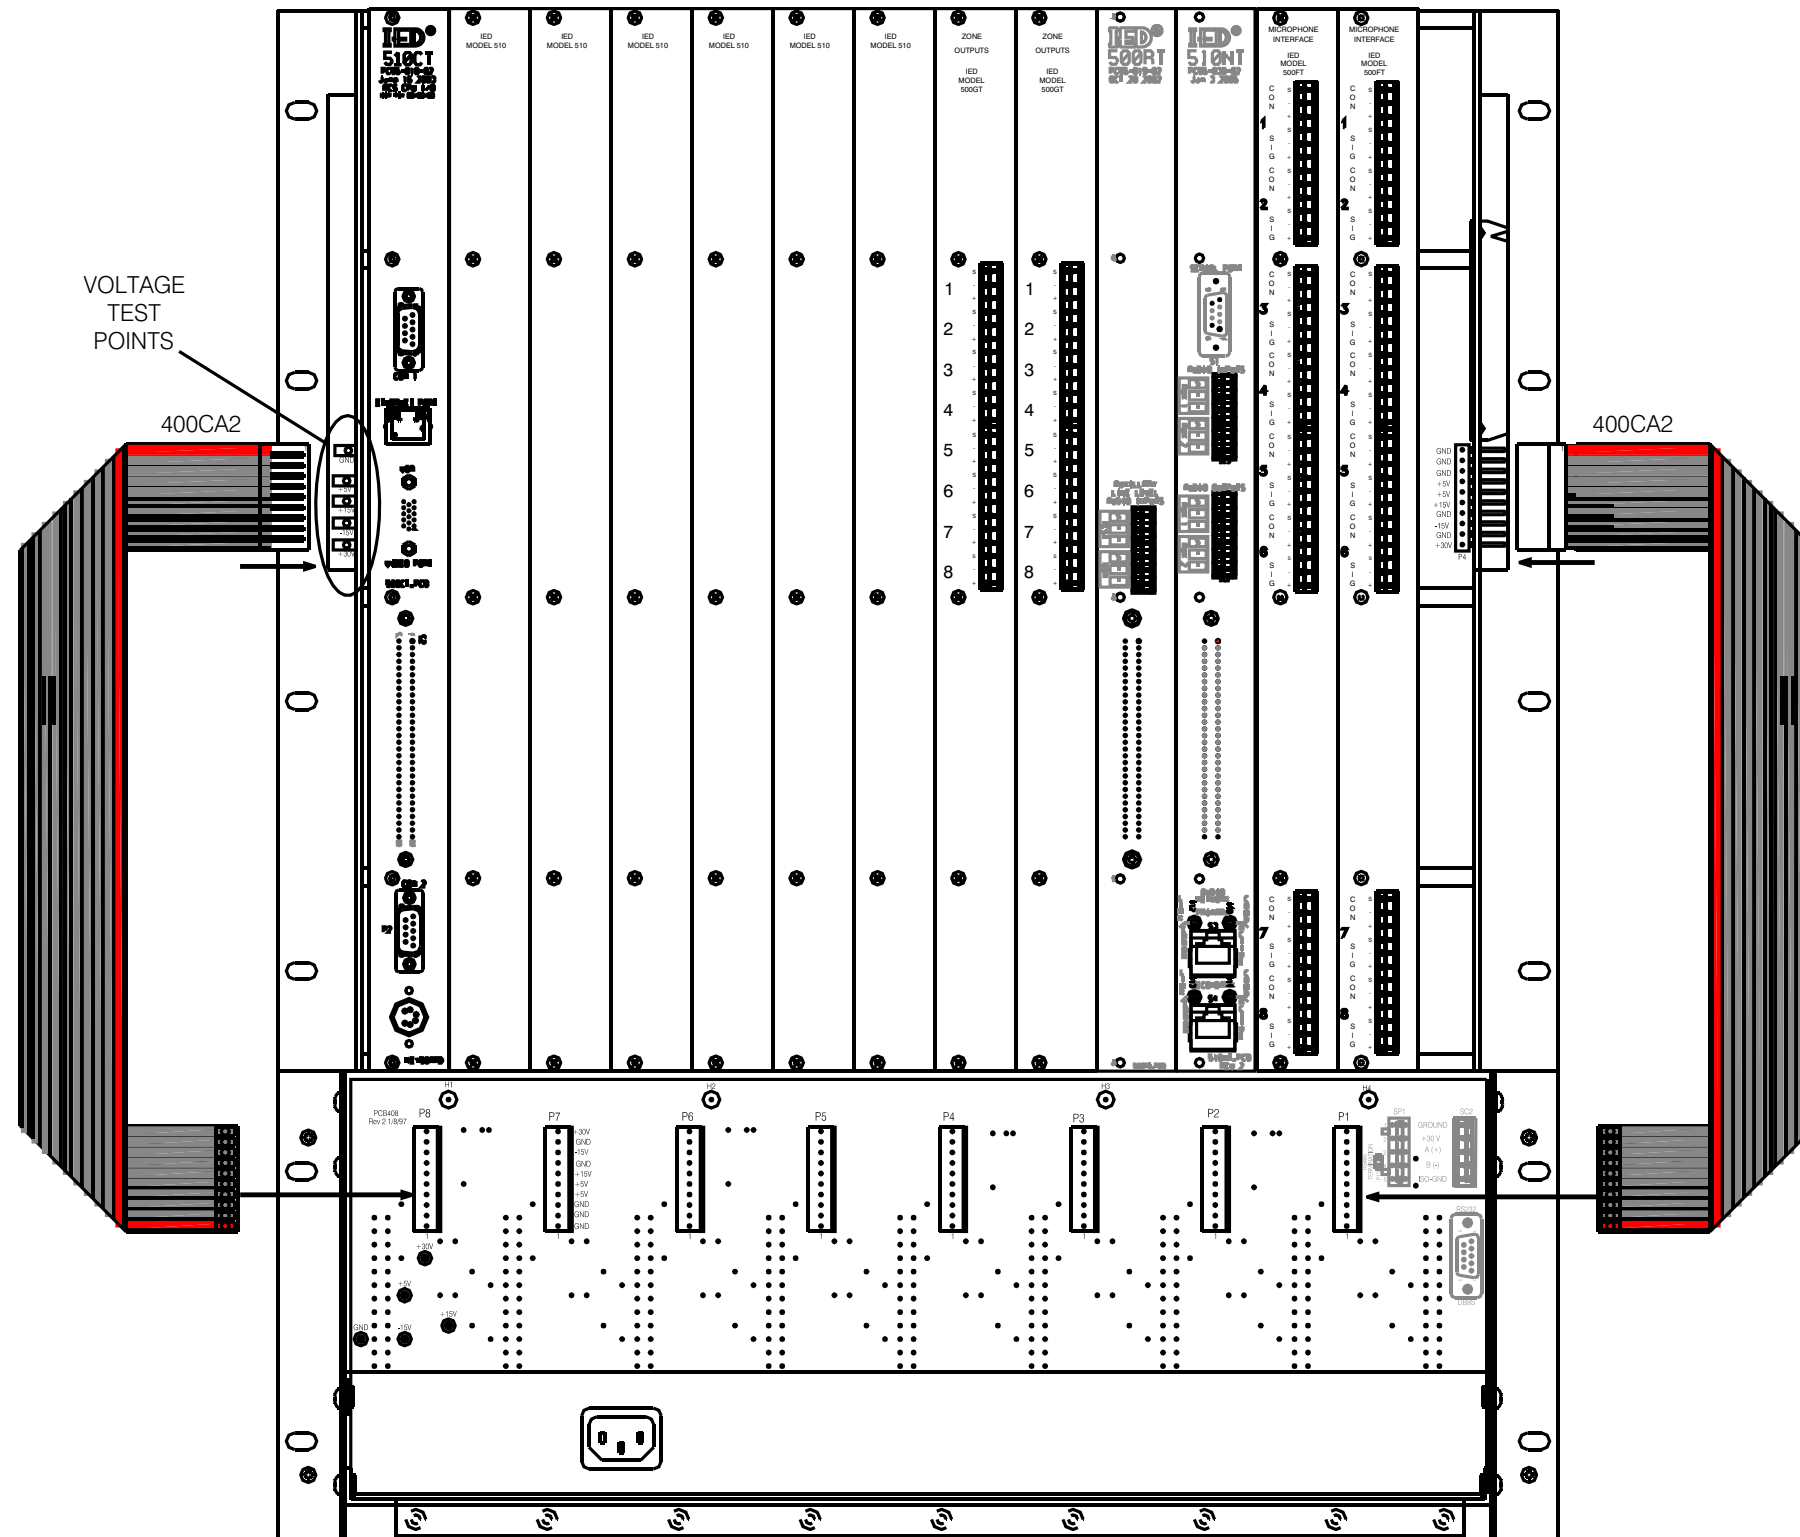

Figure 3 - Typical Power Cable Interface
1. If only one mainframe is used, it should be mounted directly above the 400PS Power Supply Assembly, with no empty rack spaces between. See Figure 3 or 6.
The 500ACS is shipped from the factory with all plug-in cards installed. The function cards are jumper addressed and must be installed in the particular slot for which they are addressed. To perform voltage checks or other testing, do not remove any of the cards completely unless necessary. With power off, simply pull them forward enough to unplug them, so that they clear the card edge connector. If it becomes necessary to remove one or more cards, be sure to make a note of the slot from which it/they were removed. As an aid, refer to Figure 3. The 510CPU always plugs into slot 13, the slot furthest to the right as viewed from the front. 500C cards always plug into 500FT terminal strips. 500D and 500DR cards always plug into 500GT terminal strips. The 500R card always plugs into a 500RT terminal strip which is usually mounted between the group of 500C cards and 500D/DR cards. If a 510N Dynamic Audio Network Card is used, it always plugs into a 510NT terminal strip usually mounted immediately to the right of the 500RT as seen from the rear of the mainframe. See Figure 3. The function of the 510N is network communications between ACSs in multi ACS systems, with 518 Series Digital Microphone Stations, and with Titan® Series Digital Distribution Products.
1. If a single mainframe is used, connect it to the 400PS Power Supply System as shown in Figure 3. If two mainframes are used, connect them to the 400PS Power Supply System as shown in Figure 4. In either case connections are made using 400CA2 cables which are supplied with the 500M Mainframes. If a third mainframe is used, 400CA3 cables, a longer version of the 400CA2 cables, will be provided.
4. Check voltages on the 500M mother board. If more than one mainframe is used, check voltages on the others, as well. See Figure 3. for the location of the voltage test points. Acceptable voltage levels are shown in table below. If there is a power supply problem the 400PS will beep and a red LED will flash on the 452CPU.